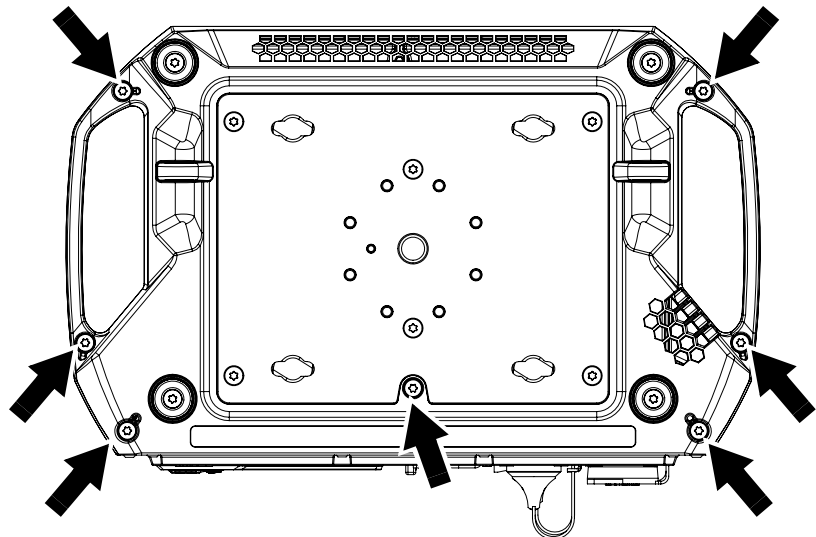

Figure 25: Releasing the base cover
3. See Figure 25. Remove the seven Torx 20 screws (arrowed) that hold the base cover in position. Keep the screws for re-use.